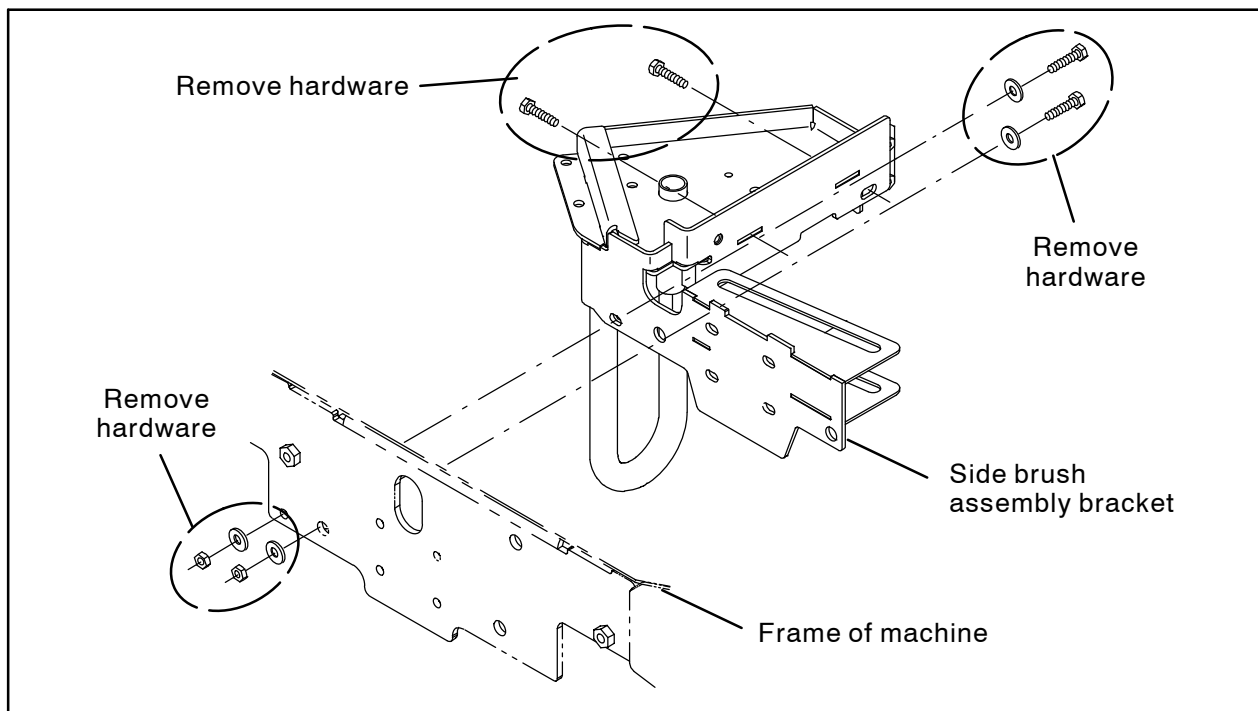

FIG. 3
4. **Machines with Side Brush Only:** Remove the hardware securing the side brush assembly to the frame of the machine. (Fig. 3)